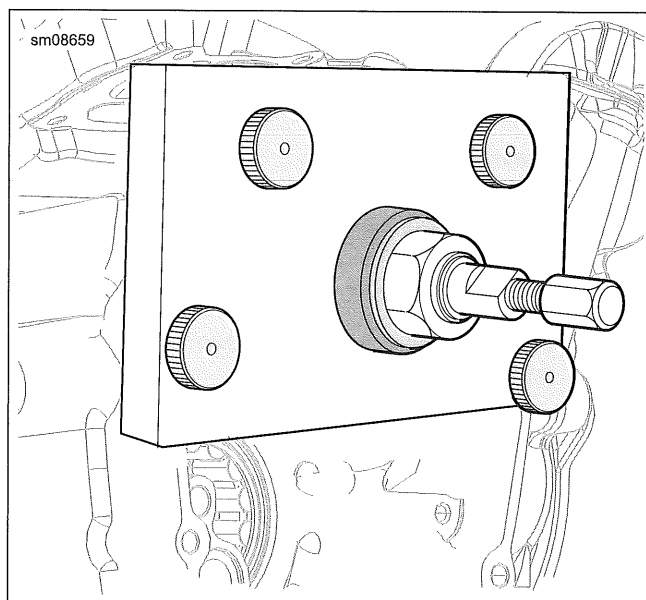

Figure 4-54. Remove Camshaft Needle Bearing
1. See Figure 4-54. Remove camshaft bearing using components of **CAMSHAFT NEEDLE BEARING REMOVER/INSTALLER** (PART NUMBER: HD-42325-C).
2. See Figure 4-54. Install bearing using HD-42325-7A (CAMSHAFT NEEDLE BEARING INSTALLER).